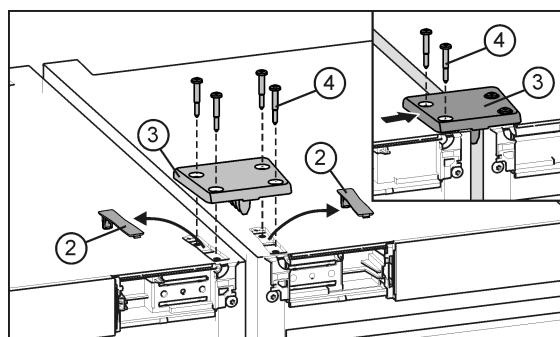

Fig. 23
- Release and remove the covers Fig. 23 (2).
- Fit a connecting plate Fig. 23 (3) and fix loosely to one appliance with two screws Fig. 23 (4).